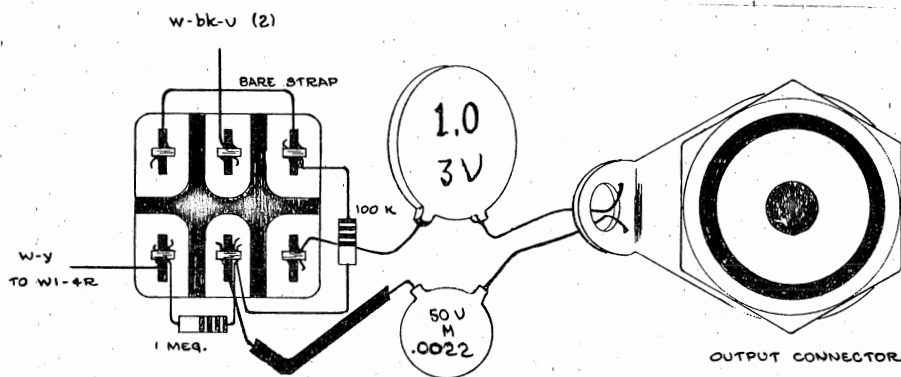

Fig. 9
(Applies only to s/n 101-318, with exceptions. These exceptions may be determined by comparing the wiring of either INTEGRATION LF REJECT switch with Fig. 9. If they are the same, omit steps 22 through 40.)
- ( ) Resolder it to the terminal indicated in Fig. 9.
- ( ) Cut off the excess wire and solder, along with the white-black-violet wire (from kit), to the switch terminal indicated in Fig. 9.
- ( ) 29. Resolder the remainder of the components and wires, as indicated in Fig. 9, using the bare wire from the kit.